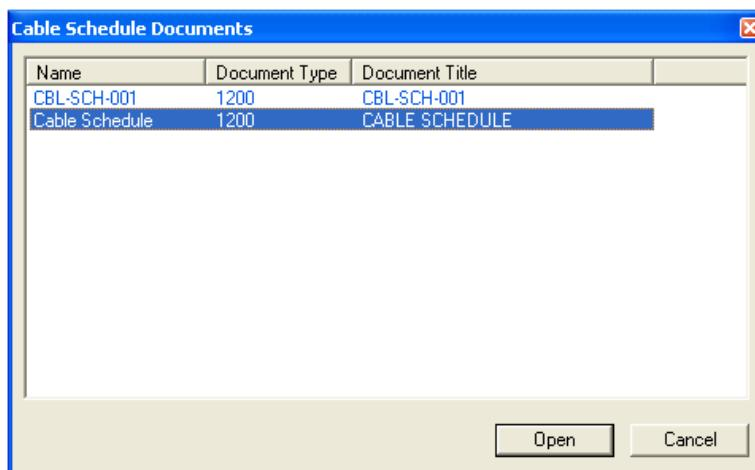

Figure 8: Cable Schedule Documents Dialog Box
8. Select a **Cable Schedule** document and click **Open**, as shown in Figure 8.